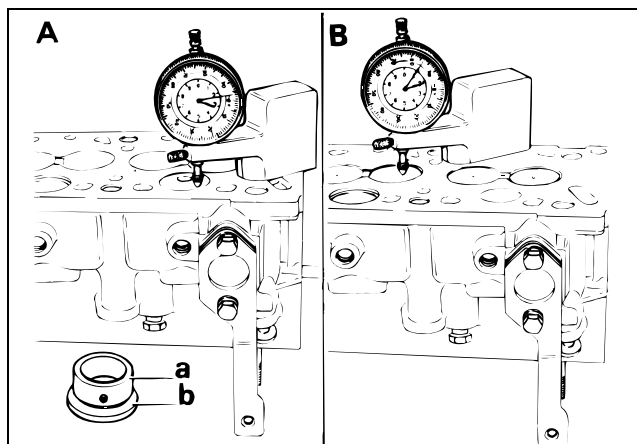

Figure 68
8. Check the protrusion of the swirl chambers (Fig. 68, A).